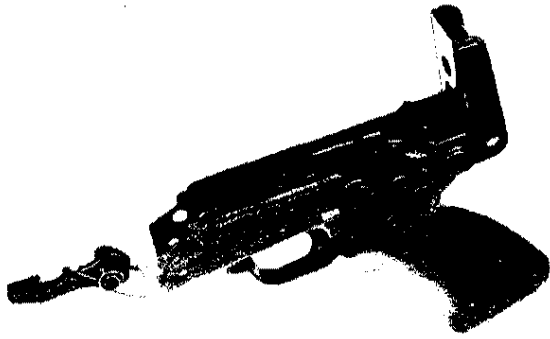

FIGURE 38. REPLACING THE HAMMER ASSEMBLY
- (4) Replace the trigger pin.
- (5) Replace the hammer assembly (Figure 38) and insert the hammer pin.